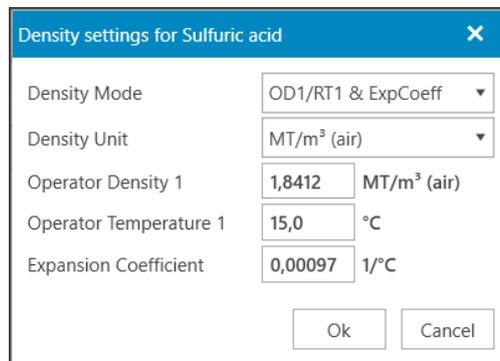

Figure 3-2: Content density settings
To edit the density settings, click the ... button in the **Density Settings** column, which opens a popup to edit the settings (Figure 3-2):
**Tip:** To enter density in another unit than the configured unit, use the 'Density Unit' setting (See Figure 3-2).